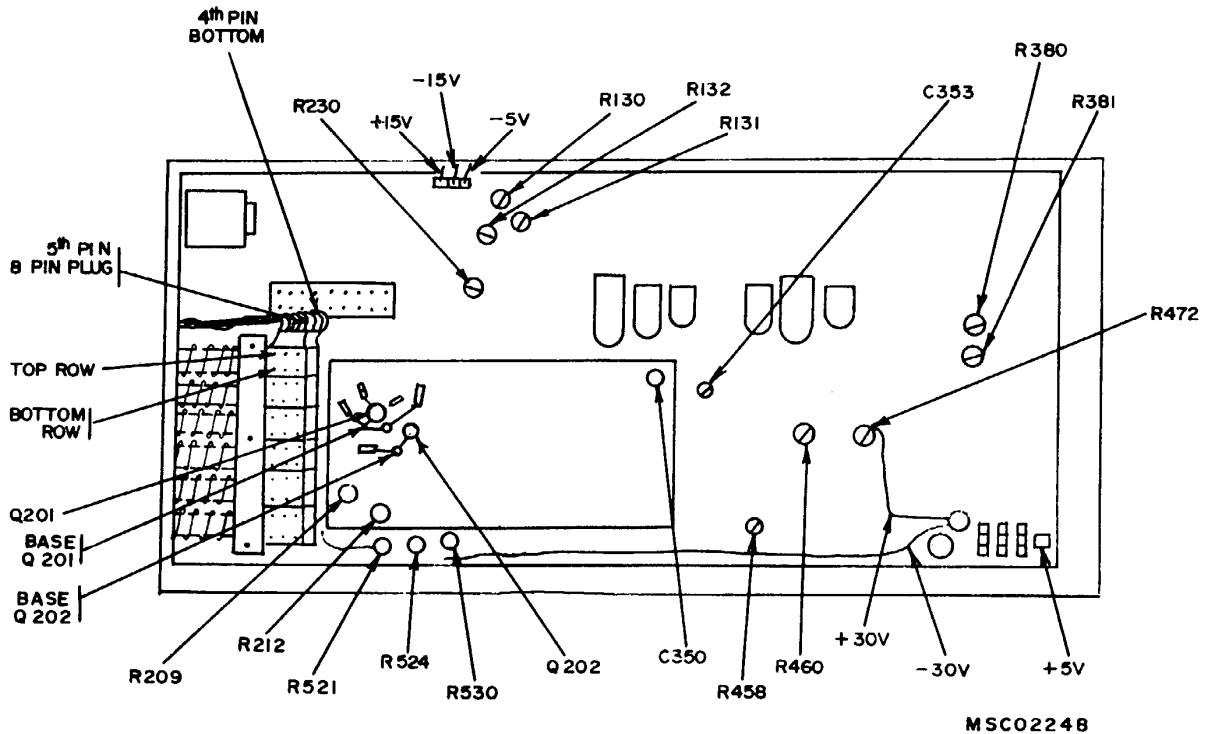

Figure 1. Test instrument - right -side view.
- (1) Set CH1 VOLTS/DIV switch to 50 mV.
- (2) Press CH1 pushbutton and set DELAYING SWEEP and DELAYED SWEEP to 1 μ S.
- (3) Connect test oscillator (A7) output to CH1 INPUT, using cable (B4).
- (4) Adjust test oscillator frequency for 1 MHz (megahertz) and amplitude for 2 divisions of vertical deflection.
- (5) Adjust TRIGGERING LEVEL control for stable display.
- (6) Alternately press and release +SLOPE pushbutton. If display does not remain stable and white dot on TRIGGERING LEVEL control does not indicate between 11- and 1-o'clock positions, perform **b** below.
b. Adjustments. Set TRIGGERING LEVEL control to 12-o'clock position and adjust R212 (fig. 1) for stable display while pressing and releasing +SLOPE button.
- (1) Connect digital voltmeter (A2) negative lead to base of Q201 and positive lead to base of Q202 (fig. 1), using leads and adapters supplied with digital voltmeter.
- (2) Adjust R530 (fig. 1) for 0 (zero) voltage indication on digital voltmeter.
b. Adjustments. Set TRIGGERING LEVEL control to 12-o'clock position and adjust R212 (fig. 1) for stable display while pressing and releasing +SLOPE pushbutton.
(1) Remove test oscillator from equipment setup.
(2) Press AUTO TRIG pushbutton and turn TRIGGERING LEVEL control fully cw.
(3) Connect digital voltmeter (A2) negative lead to base of Q201 and positive lead to base of Q202 (fig. 1), using leads and adapters supplied with digital voltmeter.
(4) Adjust R524 (fig. 1) for a +60-mV dc indication on digital voltmeter.
(5) Turn TRIGGERING LEVEL control ccw and adjust R521 (fig. 1) for a -60-mV dc indication on digital voltmeter.
(1) Connect signal generator (A5) to CH1 INPUT, using adapter and cable (B3 and B4).
(2) Set TI CH1 VOLTS/DIV switch to 50 mV and press INT CH1 and HF SYNC pushbuttons.
(3) Adjust signal generator frequency for 100 MHz and amplitude for one-half divisions of vertical deflection.
(4) Adjust LEVEL control for stable display on oscilloscope (A3) crt (cathode ray tube). If display does not stabilize with LEVEL control, perform **b** below.
b. Adjustments. Preset TRIGGERING LEVEL control fully ccw and adjust R209 (fig. 1) fully ccw and then slowly cw (clockwise) until display synchronizes.
- (1) Adjust R132 (fig. 1) to aline one marker per each vertical graticule line (R).
- (2) Adjust R130 and R131 (fig. 1) until first dot is alined on first graticule and second dot is alined on 11th graticule (R).
- (3) Adjust R460 (fig. 1) to aline 1 marker per each vertical graticule line (R).
- (1) Connect time-mark generator (A8) to CH1 INPUT, using cable (B4).
(2) Set time-mark generator to 10 mS markers output.
(3) Press HF SYNC pushbutton and release INT CH1 pushbutton. Adjust SCAN control ccw until time markers stop drifting in one direction. The first point at which time markers stop drifting, oscilloscope will display three time markers. If oscilloscope does not display three time markers, perform **b** below.
b. Adjustments. Adjust R381 (fig. 1) until oscilloscope displays 3 time markers drifting toward right on crt.
(1) Release SWP pushbutton and adjust R472 (fig. 1) until a marker is alined on second vertical graticule line.
(2) Press SWP pushbutton and adjust R230 (fig. 1) until first narrow time mark is alined on second vertical graticule line.
(3) Repeat **a**(3) and **b**(1) and (2) above for best compromise.